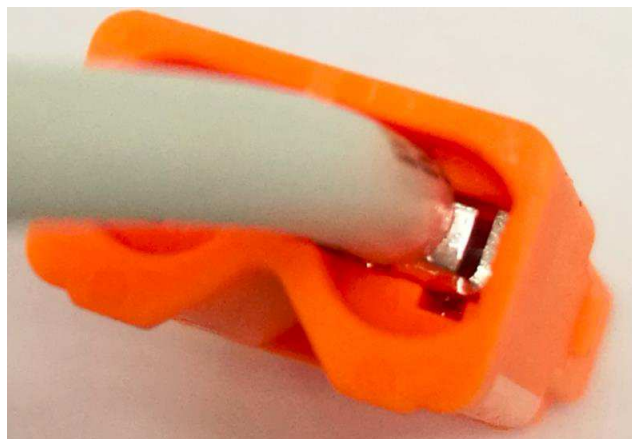

Figure 5
4. Make sure the insulator is in position (touch on the contact area). See Figure 5.